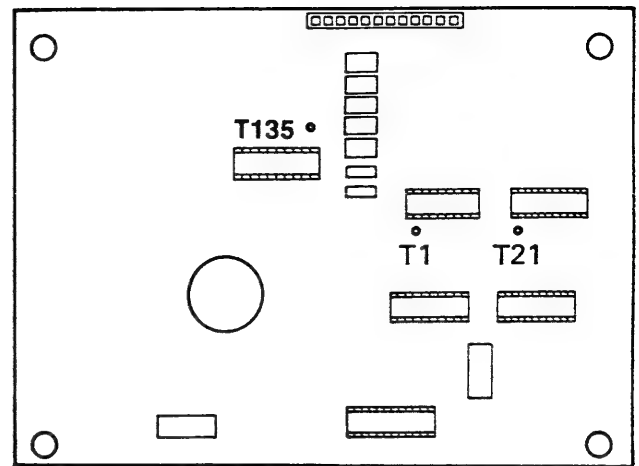

Figure 3-6.2B
8. Connect the Channel 1 Scope Probe to T1 on the Control PWA (Figure 3-6.2B).
9. Connect the Channel 2 Scope Probe to T21 on the Control PWA (Figure 3-6.2B).
10. Ground the Oscilloscope Ground Leads to T135 on the Control PWA (Figure 3-6.2B).